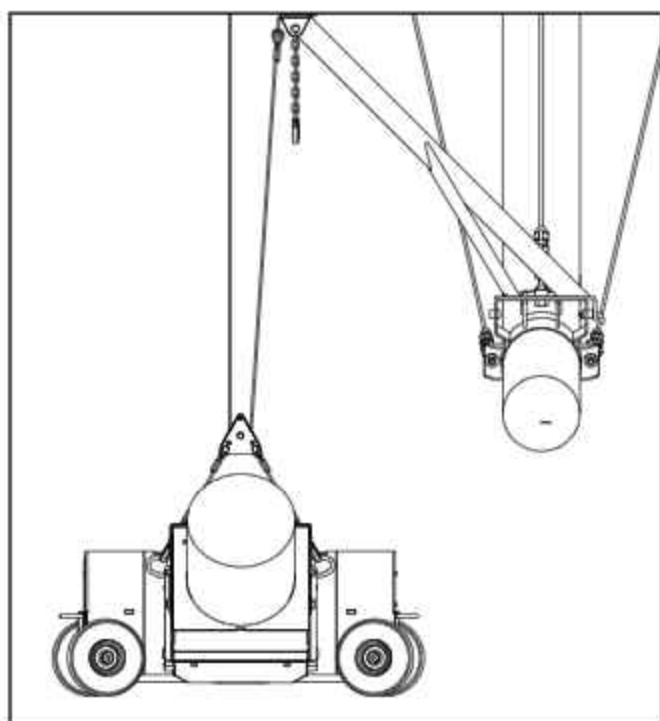

FIG. 4-4. Raising the Swing Auger
6. Move the Swing Hopper under the Lift Arm. Connect the Lift Cable to the hopper as shown in Fig. 4-4 and raise it off the ground using the winch.